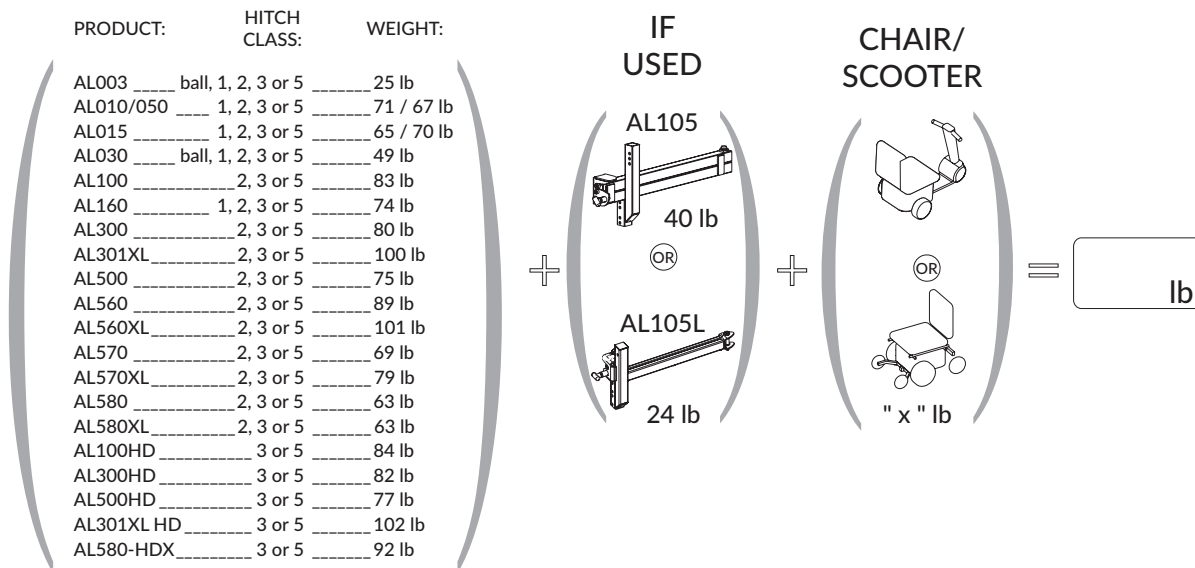

Figure 3-1
3. Add the combined weights of the lift, mobility device and, where applicable, the swing-away option. Ensure that the total weight does not exceed the hitch's recommended tongue weight. Many hitches are available on the market, and all are designed to bear a specific amount of weight. *See Figure 3-1.*